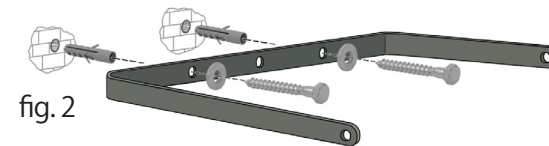

fig. 2
2. Hold bracket against the wall and mark drill points, drill the holes, insert the dowel. Use suitable material for wooden walls or lightweight walls. Fasten the bracket with screws and washers, if necessary (fig.2).